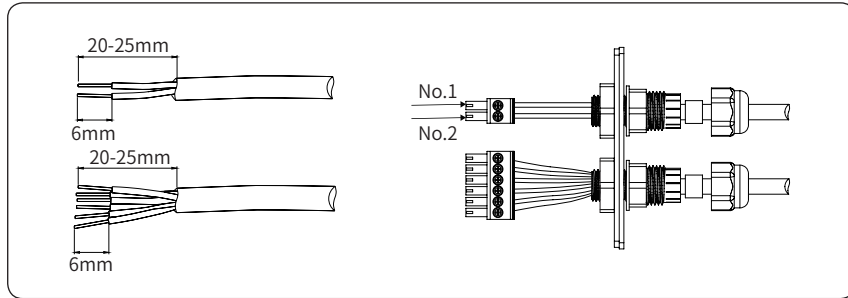

Figure 4-21
- 2) Put the two cables which attached in the CT through the components in the following order: screw cap, sealing ring, insulator, metal plate, nut and 2pin connector, as shown in Figure 4-21.